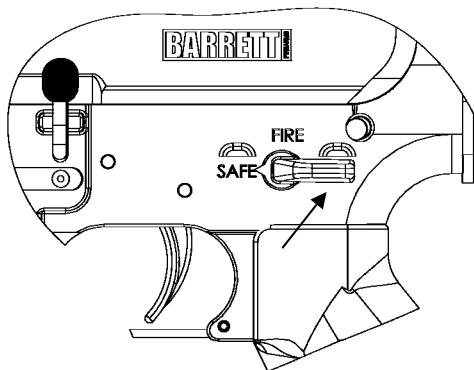
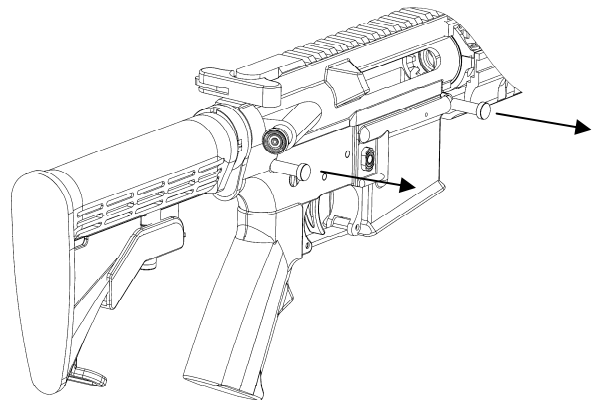

Figure 16
Figure 17
1. Ensure rifle is unloaded and clear by following the steps in the previous section. With the safety on and bolt closed (Figure 16), push the takedown pin (rearward most pin) until it clears its detent then pull it until it stops. Push the pivot pin (forward most pin) until it clears its detent then pull it until it stops. (Figure 17). Separate the upper and lower receivers.